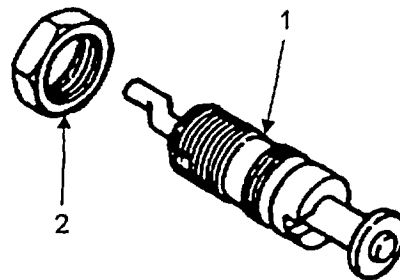
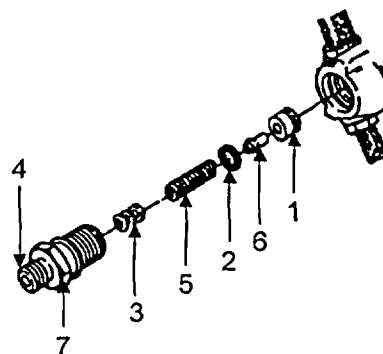

FIGURE 5-11. EXTRA FUEL DEVICE
FIGURE 5-12. DELIVERY VALVE REASSEMBLY
e. Loosen extra fuel button jam nut (Figure 5-11, Item 2) with 30 mm socket wrench, 66833500.
f. Using special wrench 60600000, slightly rotate extra fuel device (1) until fuel starts dripping.
- g. Tighten extra fuel button jam nut (2)
- j. Remove delivery valve body (Figure 5-12, Item 1) and copper washer (2) from spill device.
- k. Install filling piece with three shims (3) in delivery valve holder (4).
- l. Insert spring (5) in delivery valve holder (4).
- m. Insert copper washer (2) in delivery valve holder (4)
- n. Insert delivery valve (6) in valve body (1)
- o. Insert delivery valve (6), and valve body (1) into delivery valve holder (4)